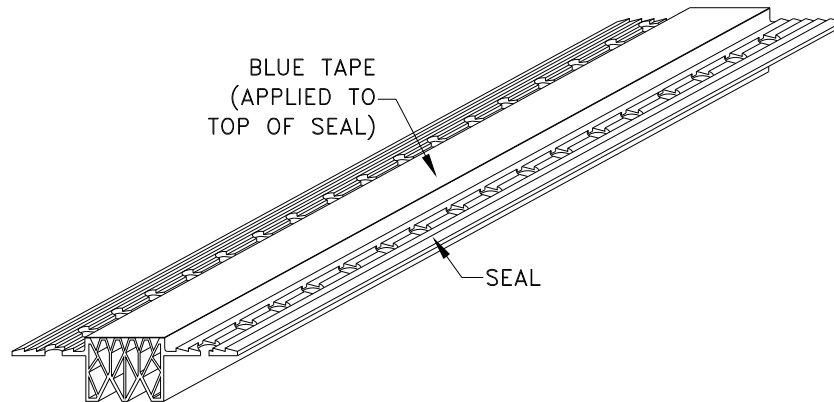

Figure 5
- STEP 3.** Apply blue tape to the top of the seal to protect it from excess Tack Coat, Elastomeric Concrete and the collection of dust and grime during the installation (see Figure 5).